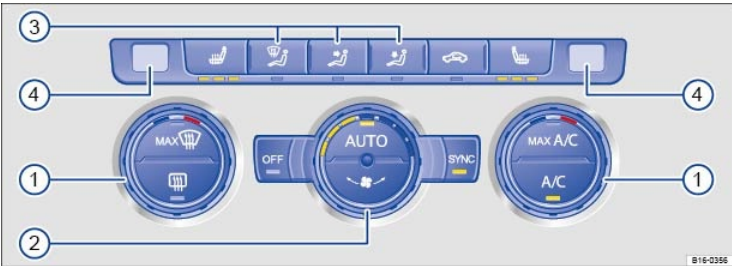

Fig. 161 In the center console: Climatronic controls.
Button/Knob	More information: Climatronic ⇒ Fig. 161 .
Air distribution ③	Press the buttons ⇒ Fig. 161 ③ to direct air flow in the desired direction. In AUTO mode, air flow is automatically adjusted to a comfortable level.
When adjusting fan speed manually, LEDs in the knob ⇒ Fig. 161② light up to indicate the current fan speed. During automatic regulation, the fan speed is not indicated.